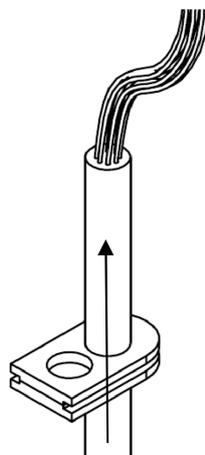

Fig. 10
3.1.4. Insert the cable and fiber units through the rubber grommet (Fig. 10);